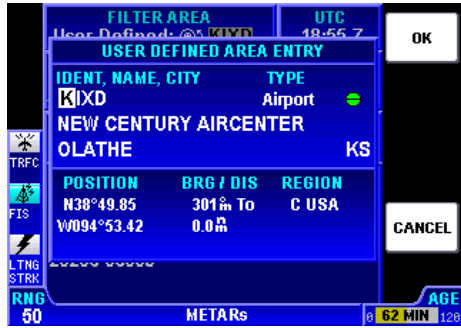

Figure 2-71
2. Turn the Rotary Knob to display the **USER DEFINED AREA ENTRY** window as shown in Figure 2-71.